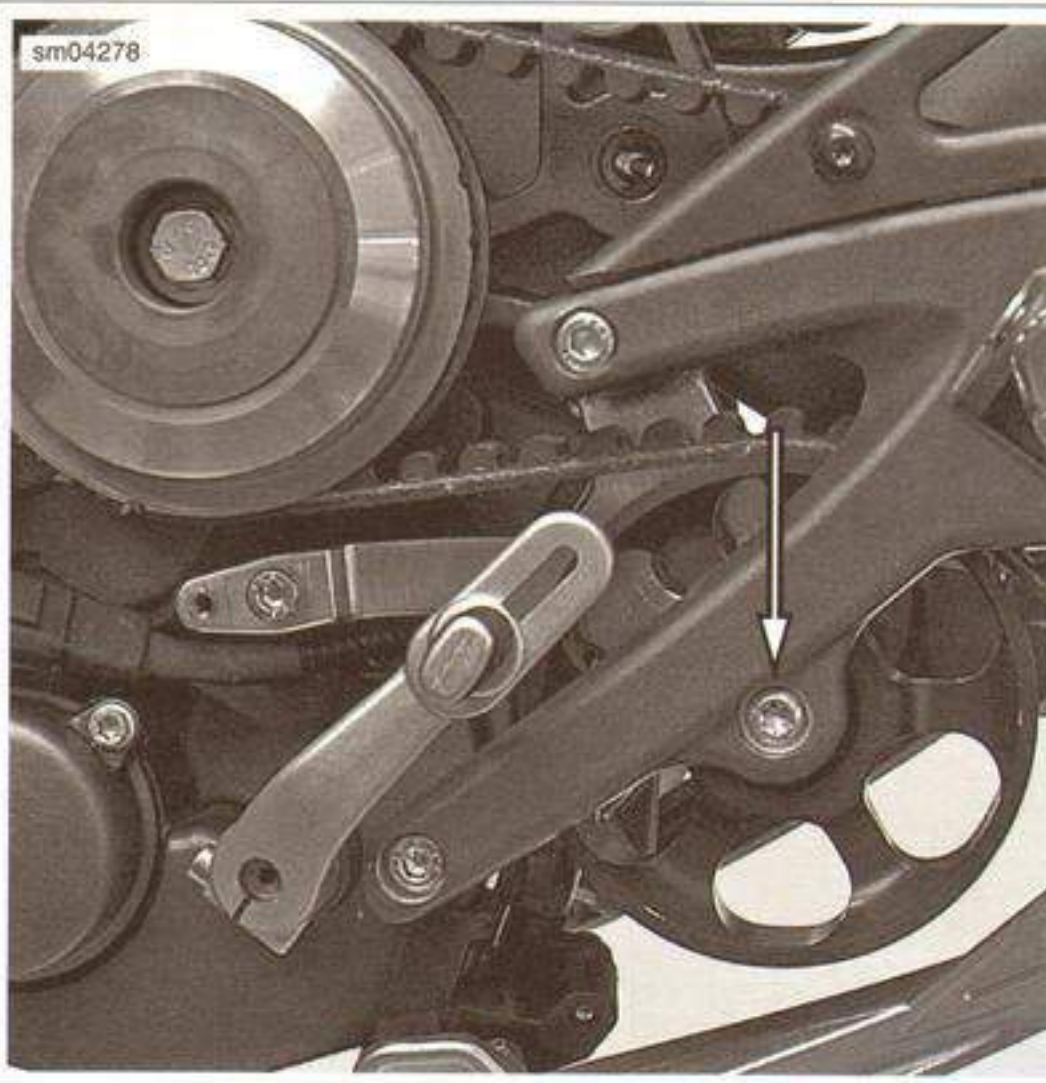

Figure 6-118. Idler Bolt
6. See Figure 6-118. Remove idler bolt, washers and locknut.